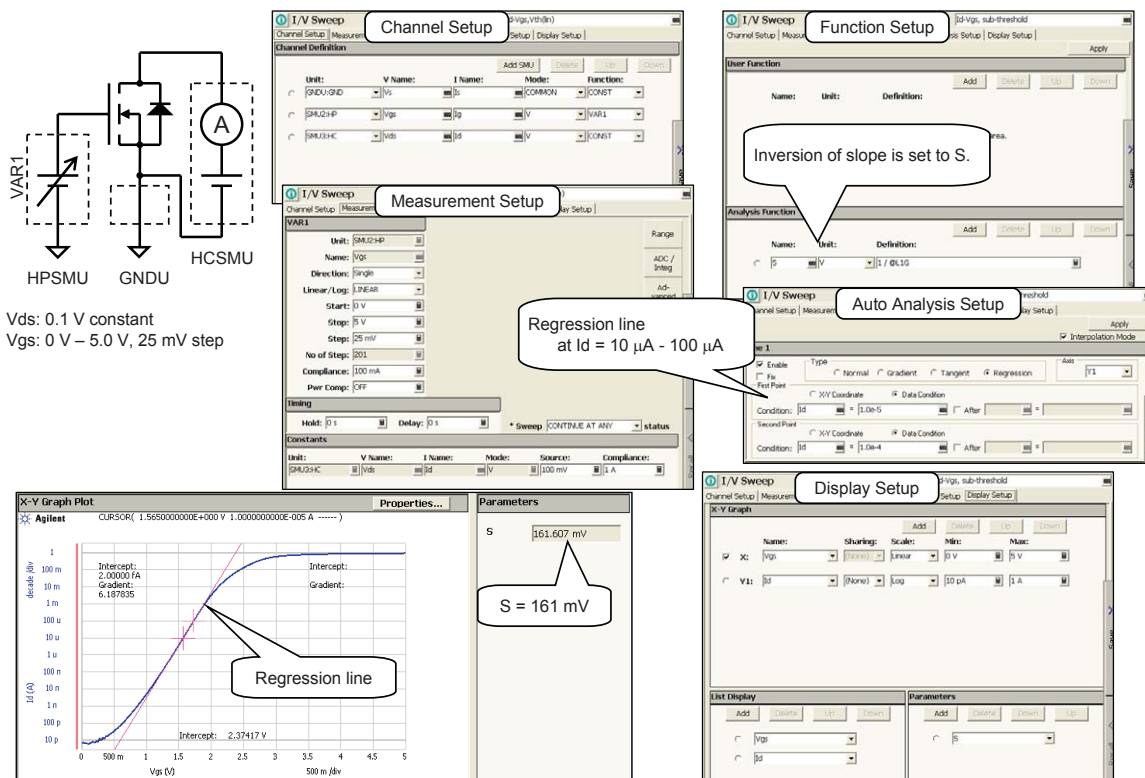

Figure 8. Determining the subthreshold swing (S) from the I_d - V_{gs} characteristics of a power MOSFET
The slope of this regression line is called the subthreshold slope, and the inverse of this slope is referred to as the subthreshold swing (S) and it has units of volts/decade. Of course, this entire process can be automated using the auto analysis and function setup pages as shown in the figure 8.